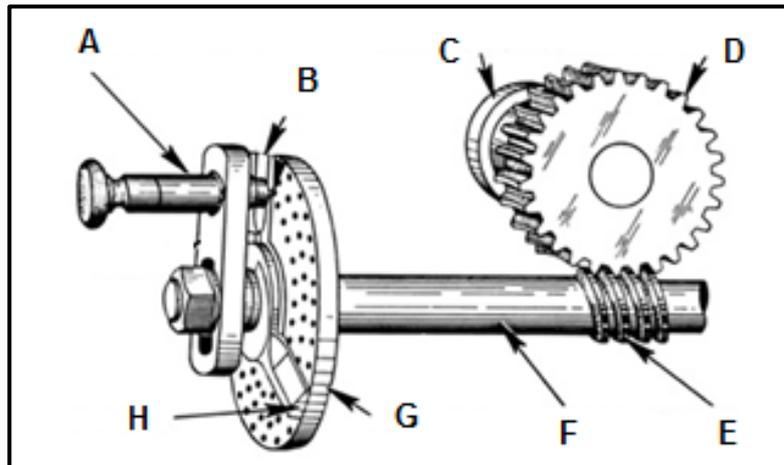

FIGURE 5.4
5.4 Answer the questions below with reference to the drawing of the dividing head in FIGURE 5.4 below.